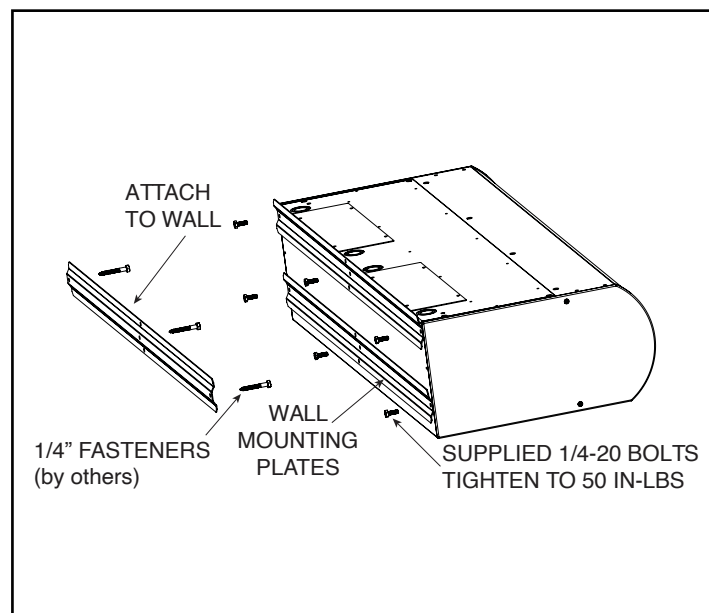

Figure 4 - Wall Mounting Preparation
1. Locate the wall mounting plates, in the carton that contained the unit. **See Figure 4.** For units over 72", there are more than two wall mounting plates.